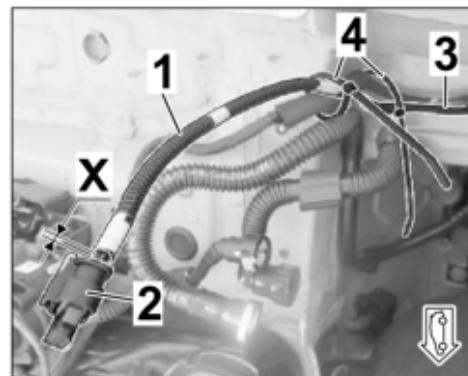

Figure 32
3.4.5 Fit corrugated hose 4.5 x 7.6 x X to each branch from a distance of approx. 30 mm from the connector (socket housing 4-pin) to the underbody. ⇒ Figure 32